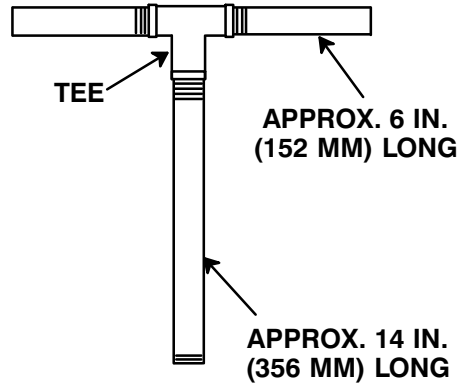

Figure 4. Rotating Assembly Tool
*An optional disassembly tool is available from the factory. If the tool is used, follow the instructions packed with it. A similar tool may be assembled using 1/2-inch pipe (schedule 80 steel or malleable iron) and a standard tee (see Figure 4). All threads are 1/2-inch NPT. **Do not pre-assemble the tool.***